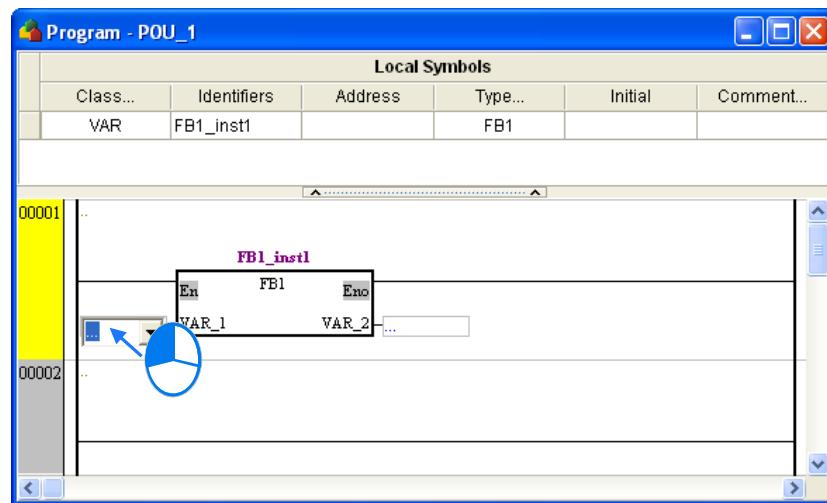

Figure 13-30 Clicking a node
- After users click a pin of a function block in a POU, they can type text, as shown in figure 13-30.